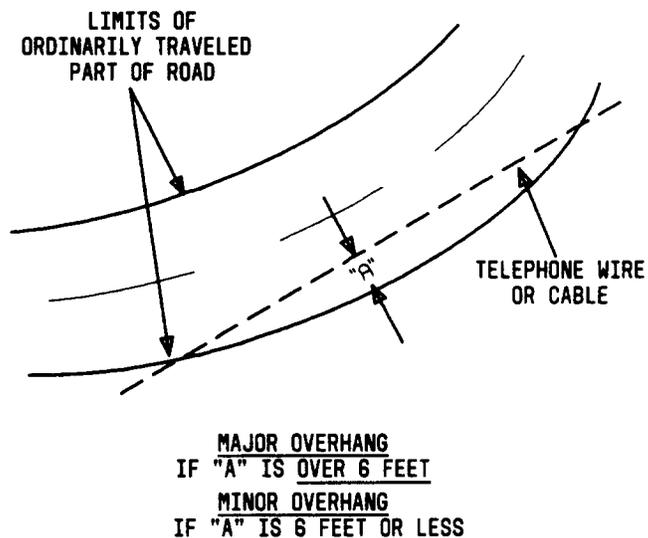

Fig. 1—Overhang—Running Along Public Roads
1.05 The clearances shown for wire **overhanging** the traveled part of the road are considerably larger than clearances required where no such overhang is involved (Fig. 1).
2.01 The required C rural wire clearances above various ground or rail environment and in relation to span lengths are shown in Table A. Figures 1, 2, 5, 6, and 7 are referenced in Table A.